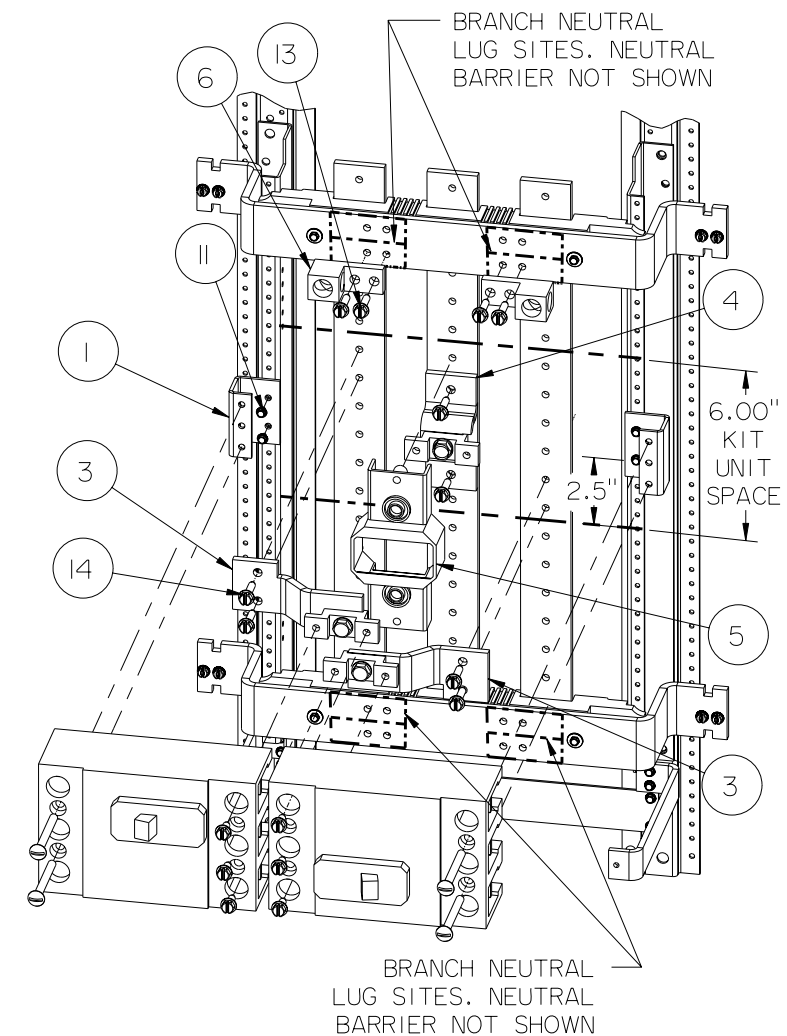

Figure 3
5. Refer to fig. 3. - Fasten the breaker supports (item 1) to the base rails in the center of the 6" kit unit space with four 8-32 Screws (item 11). Fasten the center connector (item 4) to the middle panel bus with two 1/4-20 X 1" screws (item 14). Tighten the screws to the torque values on the back of the dead front. Install the QJ branch barrier (item 5), centered over the installed connector (item 4). Insert the barrier's two mounting pins completely into the corresponding holes on the middle panel bus. Position two Type B outer connectors (item 3) at the two ends of the barrier (item 5) and fasten them to the outer panel bus parts with four 1/4-20 X 1" screws (item 14).
- 7A. TO INSTALL 3-POLE BREAKERS, Position each breaker with its two load-side mounting holes aligned with the outer two holes in a breaker support (item 1). Bring the breaker line pads into contact with the connectors. Fasten each breaker to its support with two 1/4-20 X 2-1/2" machine screws (item 15). Do not tighten until the bus connections are made. Fasten each breaker's line pads to the connectors with two 1/4-20 X 5/8" Screws (item 12).
7B. TO INSTALL 2-POLE BREAKERS, breakers must be placed in the highest position on the left side of the unit space and in the lowest position on the right side of the unit space so that the operating handles fall into the same positions as the 3-pole breakers shown in Fig. 3. Position a left side mounted breaker, with its load side mounting hole aligned with the upper hole in the left side breaker support (item 1). Bring the line side breaker pads into contact with the upper two connectors (upper item 3 & item 4). Position a right side mounted breaker, with its load side mounting hole aligned with the lower hole in the right side breaker support. Bring the line side pads into contact with the lower two connectors (item 4 & lower item 3). Fasten each breaker to its support with one 1/4-20 X 2-1/2" machine screw (item 15). Do not tighten until the bus connections are made. Fasten each breaker's line side pads to the connectors with two 1/4-20 X 1" screws (item 14).
8. If this kit is installed in a panel with a neutral, fasten the two branch neutral lugs (item 6) to any of the eight indicated sites on the upper and lower neutral cross bus parts with four 1/4-20 X 3/4" Screws (item 13).